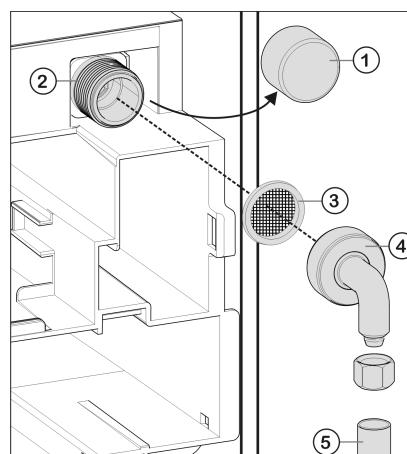

Fig. 31
- ▶ Remove the cap *Fig. 31 (1)* from the solenoid valve *Fig. 31 (2)*.
- ▶ Ensure that the gasket *Fig. 31 (3)* is inserted in the elbow connection *Fig. 31 (4)* supplied.
- ▶ Connect the elbow adapter *Fig. 31 (4)* to the solenoid valve *Fig. 31 (2)* and tighten with an open-ended wrench, for example.
- ▶ Connect the domestic water supply *Fig. 31 (5)* (e.g. copper pipe) to the elbow connector *Fig. 31 (4)*.